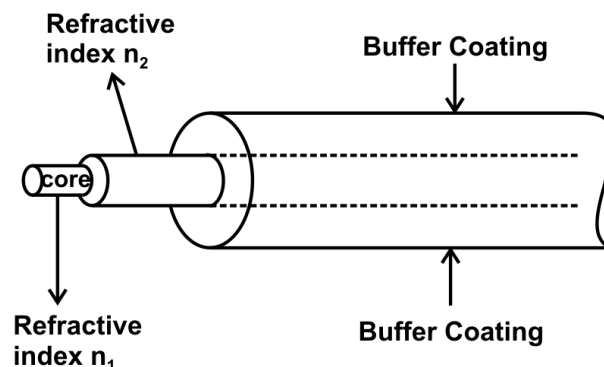

Fig. 14.1: Schematic diagram of optical fibre structure
3. The schematic diagram of an optical fibre is shown in figure 14.1.